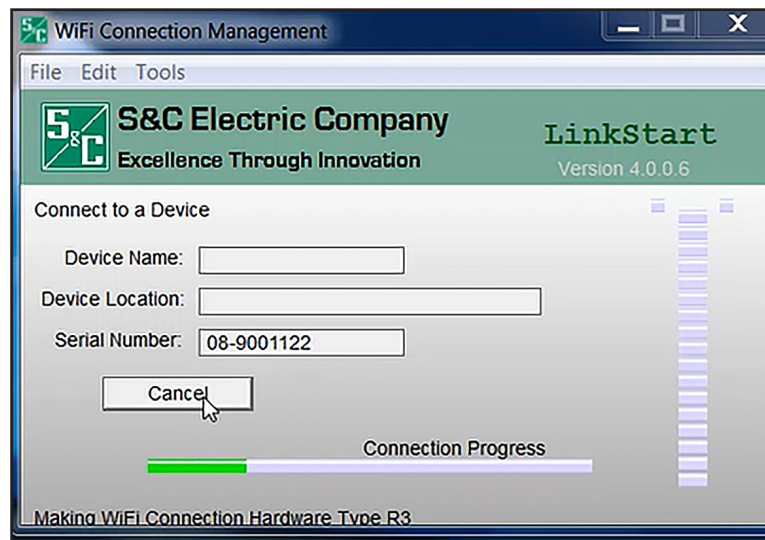

Figure 6. The Connection Progress status bar.
STEP 3. The **Connect** button changes to the **Cancel** button, and connection progress is shown on the Connection Progress status bar. See Figure 6.